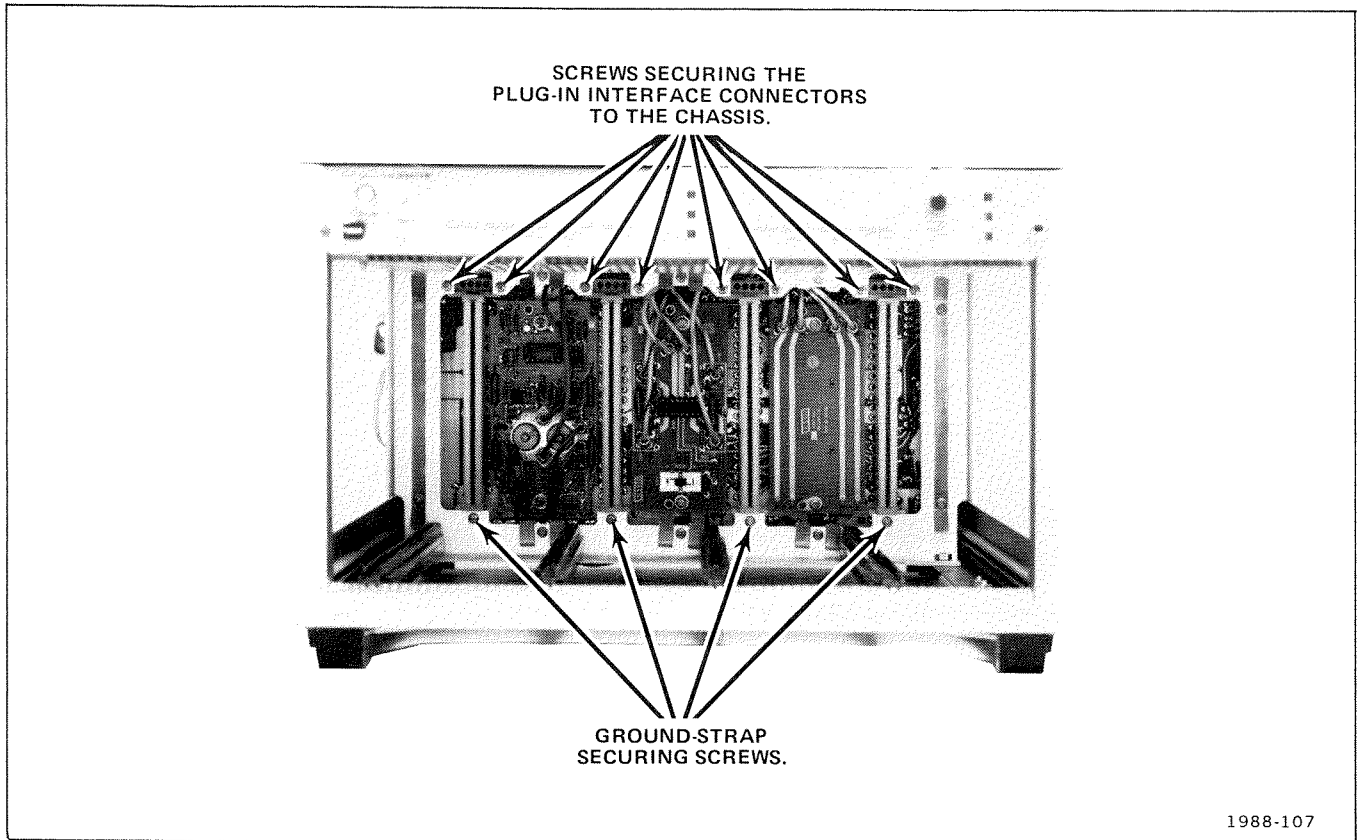

Figure 4-11. Location of securing screws for the Main Interface board.
3. Remove the screws from inside each plug-in compartment which hold the plug-in interface connectors to the chassis (see Figure 4-11). Also remove the screws which hold the ground straps to the chassis.